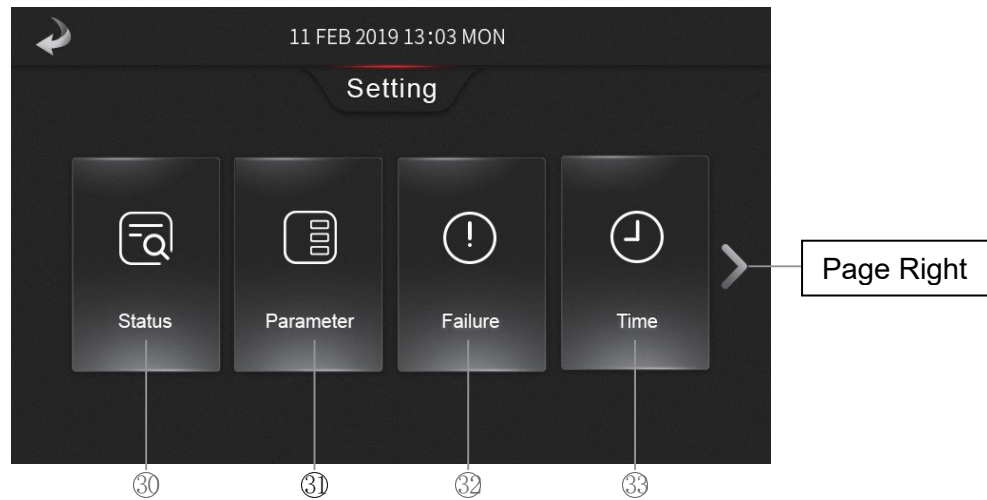
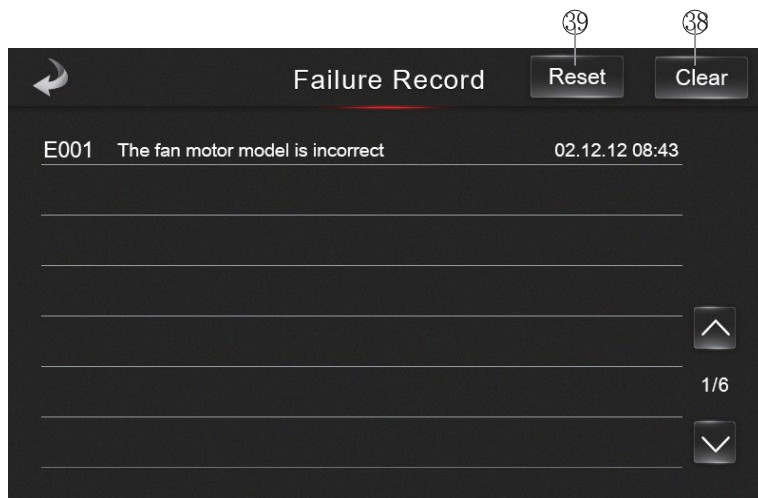
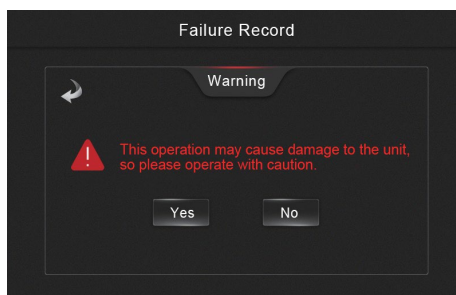
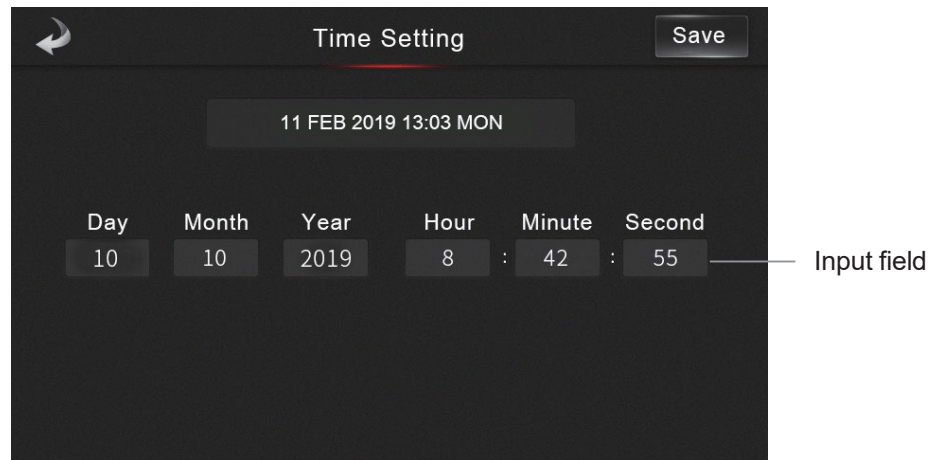

Fig. 9 Setting interface
Fig.12 Failure Record interface
Fig.13-2 Recovery the failure three times to lock interface
Fig.14 Time Setting interface
- On the main interface, press the Setting button (⑥) to navigate to the Setting interface (refer to Fig. 9).
- In the Setting interface (Fig. 9), press the Status button to access the Status interface.
- Navigate to the Setting interface (refer to Fig. 9) and press the Failure button to access the Failure Record interface for querying the current failure records (refer to Fig. 12).
- b. (1) The failure record has the power failure memory function, but if the record is manually cleared, the record will not appear again.
(2) In the Failure Record interface (Fig.12), press “38” to enter delete all the history failure records interface (Fig.13) Ordinary solution see 5.3. In the Failure Record interface (Fig.12), press to enter recovery the failure three times to lock interface(Fig.13-2).
In the Setting interface (Fig.9), press Time button “33” to jump to Time Setting interface (Fig. 14), click on the input field and enter time digital, press **Save** to save the settings.